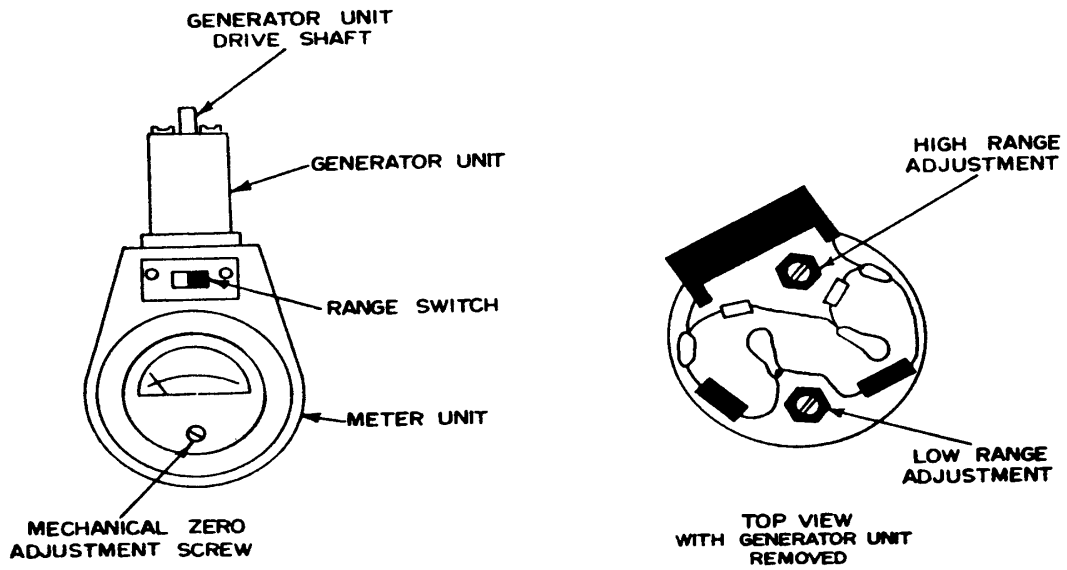

Figure 1. Electric tachometer - generator.
- (1) Repeat **7 i** through **8 a** (3) above.
- (2) Adjust tachometer calibrator for 12.005 ms on frequency counter.
- (3) Adjust low range adjustment (fig. 1) for 2500 rpm on TI (R).
- (4) Set **RANGE** switch of TI to **HI**.
- (5) Connect 1 to 1 ratio drive adapter to tachometer calibrator in a horizontal plane.
- (6) Adjust tachometer calibrator for 12.005 ms on frequency counter.
- (7) Adjust high range adjustment (fig. 1) for 5000 rpm on TI (R).
- (8) Repeat 7 i through 8 a (8) above.